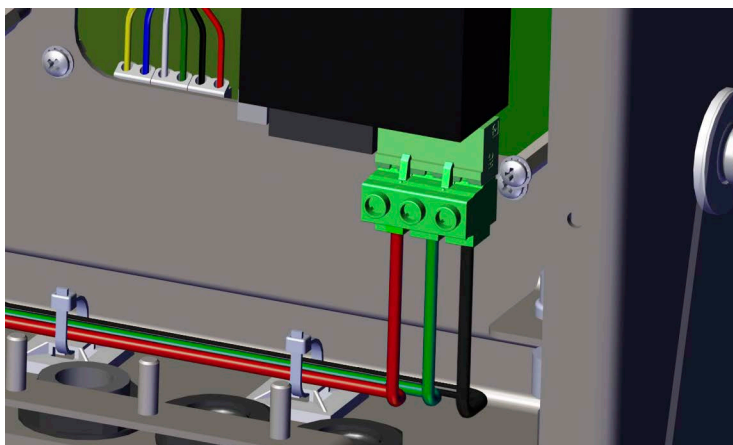

Figure 2-22. Connect DC Power Wiring
2. Run the three wires down the back of the indicator and connect them to the three pin plug (PN 15888) that connects to the power supply board, see Figure 2-22 and Table 2-4 on page 30.